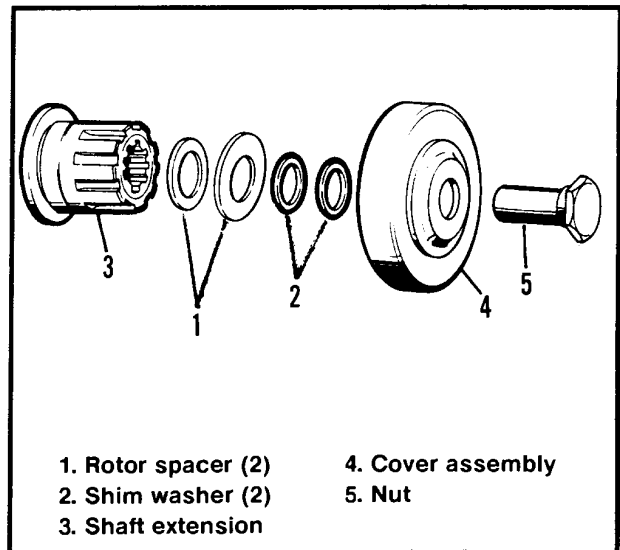

Figure 2. Components To Be Installed For Test
5. See Figure 2. Install the rotor spacers (1), the sprocket shaft spacers (2) (selected in step 4 and the spacer(s) installed at the factory) the extension shaft (3), cover assembly (4) and nut (5). Do not install the stator, rotor, compensating sprocket or the primary chain, adjuster or clutch. Tighten the compensating sprocket nut (5) to 80 - 100 ft-lbs of torque.